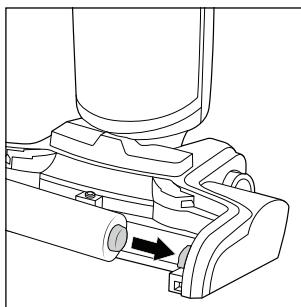

Fig. 39
- ◆ Fit the rotary brush **6** and the splash guard **7** back onto the appliance by first pushing the rotary brush **6** onto the fitting on the right side of the foot section **3** (see fig. 39).